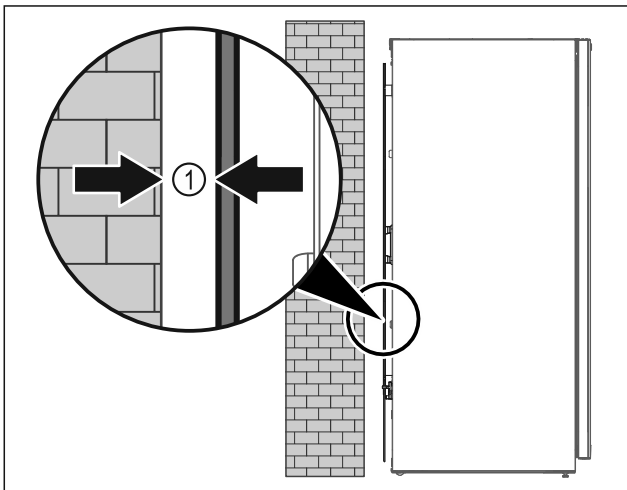

Fig. 51
- Set up the appliance either free-standing or directly against a wall at a minimum distance of 5 mm Fig. 51 (1).